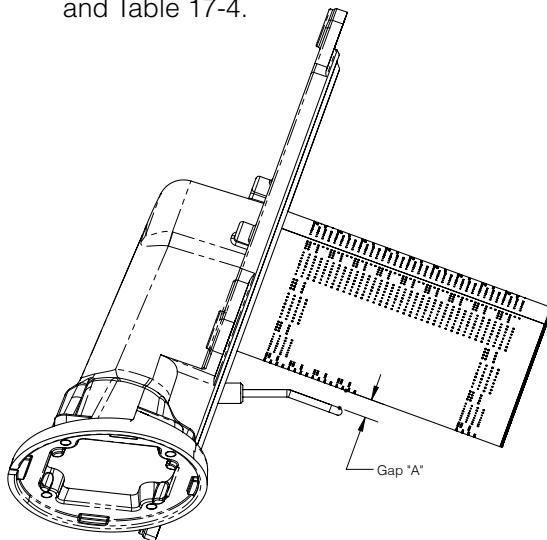

Figure 17-3: Ignitor/Flame Sensor to Burner Gap
- Verify gap between ignitor/flame sensor and burner is within range shown in Figure 17-3 and Table 17-4.
- B. Check ignitor flame sensor distance to burner per Figure 17-3.